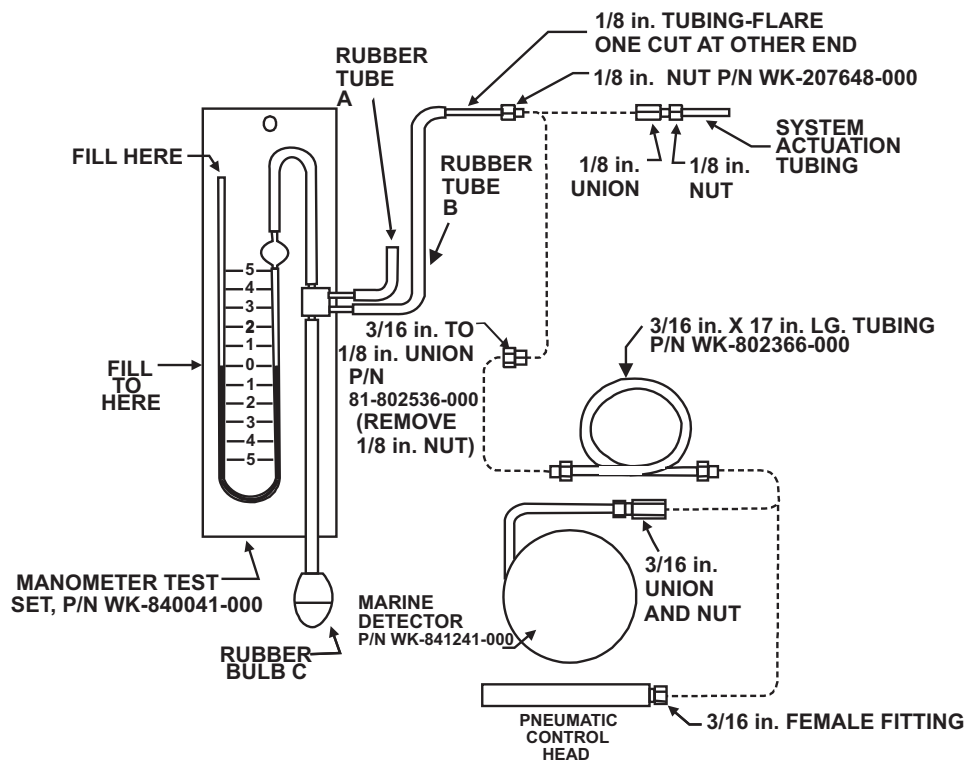

Figure 6-7. Manometer Test Set
Pressure setting; see Figure 6-7.
4. Use manometer test set (P/N WK-840041-000, Figure 6-7) and pour water into the open tube until the water level in both tubes is exactly at the zero mark. (The test set is not furnished as part of the system.)
1. Install manometer in system tubing at pneumatic control head connection. Replace union connection with a control heat "T." Close open tube "A" of the manometer (see Figure 6-7) with crimp clamp. The manometer is now an integral part of the system and provides a visual record of pressure to which system is subjected by heat or cold at the detector.